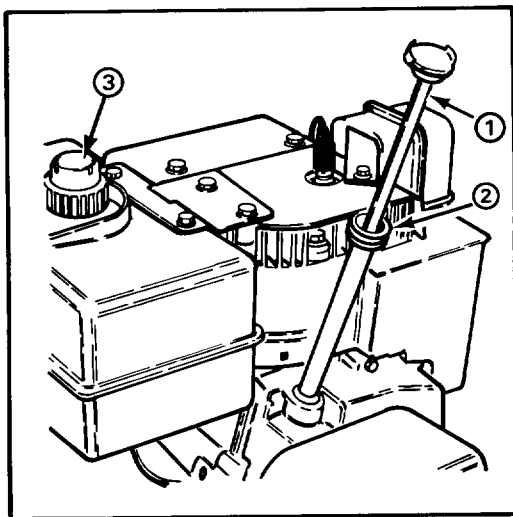

Figure 8
FILL CRANKCASE WITH OIL (Fig. 8)
1. Clean area around the fuel tank cap (Fig. 8). Remove cap from fuel tank and fill tank to within 1/2" (13 mm) from the top with unleaded regular gasoline. Reinstall fuel tank cap.